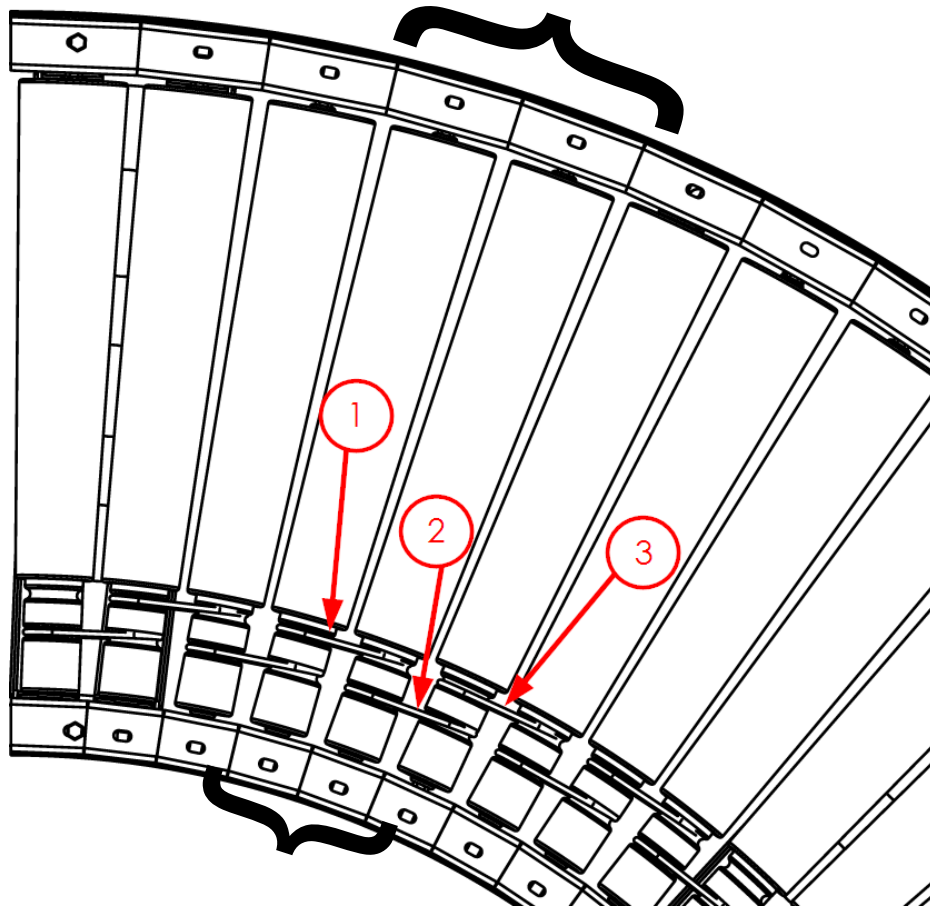

Figure 7: O-ring Band Replacement
3. If band being replaced is on the outside groove/hub of the roller (shown as band number 2 in Figure 7), the two rollers within the bracket symbols will need to be removed. Follow the roller removal steps in the roller replacement procedure.
4. After the rollers have been removed, slide one of the rollers that was removed through band number 1 of Figure 7.
5. After the roller is within band number 1, slide the new band onto the same roller on the groove side of the roller (left side in Figure 7).
7. Once the groove side hex shaft (left side in Figure 7) is within the hex hole, insert the opposite side hex shaft into the appropriate hex hole. Use the roller's length as leverage to aid in this step. As called out in the roller replacement procedure, use a putty knife or other flat surface tool to protect the paint on the side frame.
9. Slide the roller through the old band (band number 3 of Figure 7), then slide the roller through the new band.
11. Once the groove side hex shaft (left side in Figure 7) is within the hex hole, insert the opposite side hex shaft into the appropriate hex hole. Use the roller's length as leverage to aid in this step. As called out in the roller replacement procedure, use a putty knife or other flat surface tool to protect the paint on the side frame.
12. If the band being replaced is on the inside groove/hub of the roller as shown by band number 1 of Figure 7, then remove the hex shafts opposite the groove/hub.